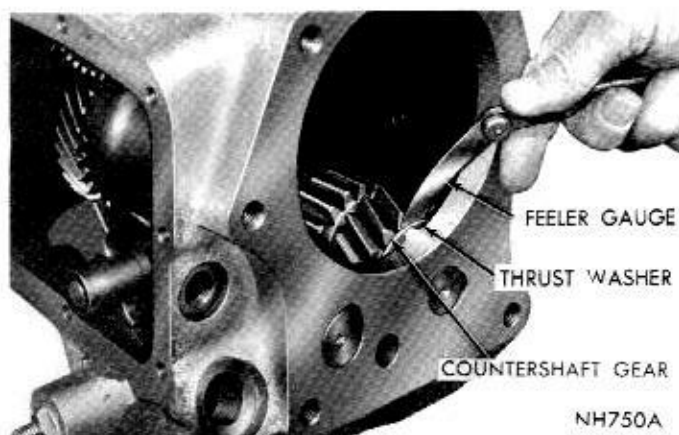

Fig. 26—Measuring Countershaft Gear End Play
washer and gear (Fig. 26). This measurement should be .015 to .029 inch. If measurement is greater than that specified, new thrust washers must be installed at reassembly.
(3) If countershaft gear end play exceeded .029" when measured during disassembly (Fig. 26). Install new thrust washers. Coat thrust washers with heavy grease and install them over arbor with tang side toward the case boss (Fig. 33).